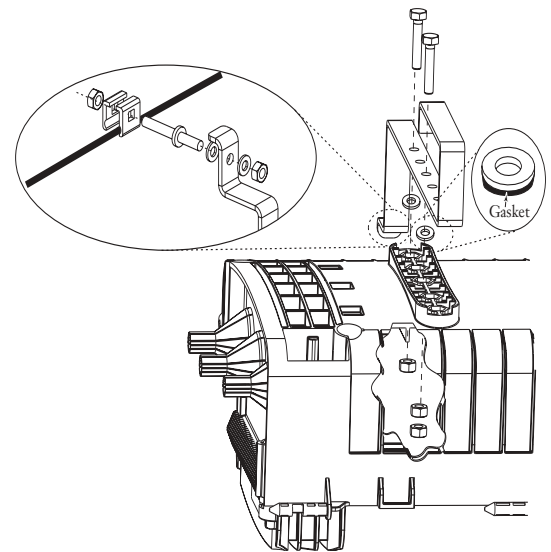

Figure 6 — Aerial Bracket Components
- Step 6** Assemble the clamps onto the hanging brackets in the orientation shown in Figure 6.